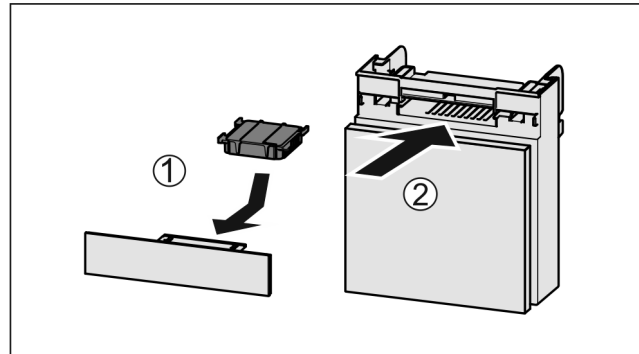

Fig. 126
- ▶ Insert the carbon filter as shown in the diagram Fig. 126 (1).
- ▶ Push the compartment in Fig. 126 (2).